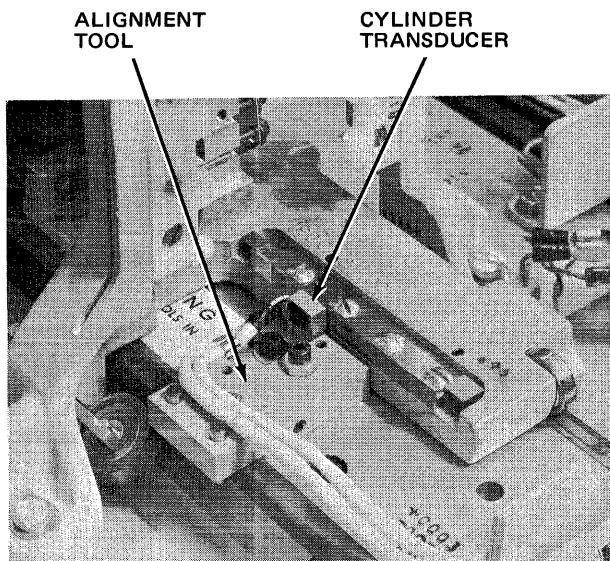

Figure 5-32. Cylinder Transducer Alignment Tool Installation
- h. Install alignment tool perpendicular to rack. Loosen both setscrews until aligner balls are slightly inside tool. Mount the tool on the carriage way. Place feeler gauge between transducer and alignment tool and tighten hold-down screw on alignment tool (see Figure 5-32).